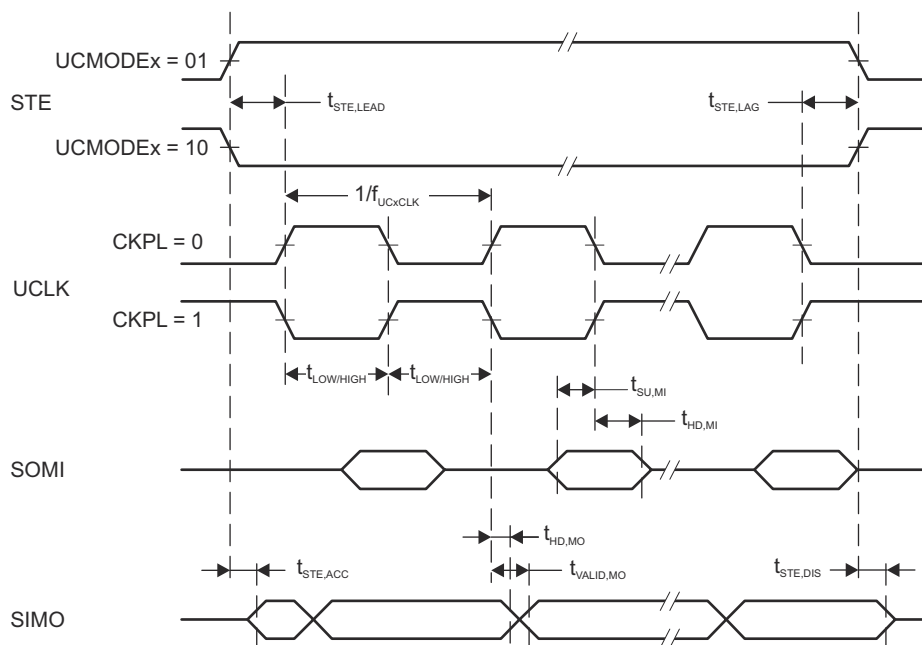
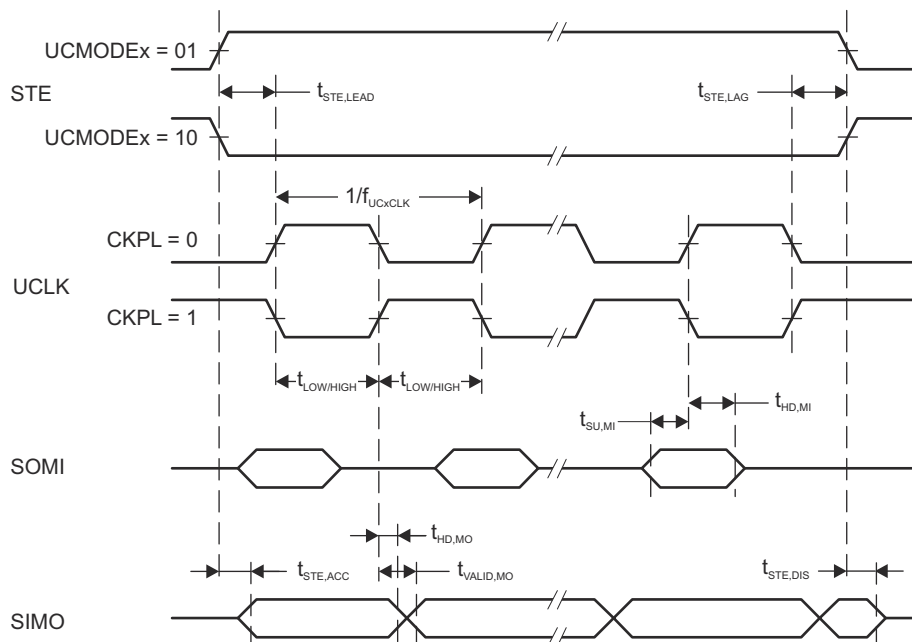

图 8-13. SPI Master Mode, CKPH = 0
图 8-14. SPI Master Mode, CKPH = 1
- (1) fUCxCLK = 1/2tLO/HI with tLO/HI = max(tVALID,MO(eUSCI) + tSU,SI(Slave), tSU,MI(eUSCI) + tVALID,SO(Slave)). For the slave parameters tSU,SI(Slave) and tVALID,SO(Slave), see the SPI parameters of the attached slave.
- (2) Specifies the time to drive the next valid data to the SIMO output after the output changing UCLK clock edge. See the timing diagrams in 图 8-13 and 图 8-14.
- (3) Specifies how long data on the SIMO output is valid after the output changing UCLK clock edge. Negative values indicate that the data on the SIMO output can become invalid before the output changing clock edge observed on UCLK. Refer to the timing diagrams in 图 8-13 and 图 8-14.